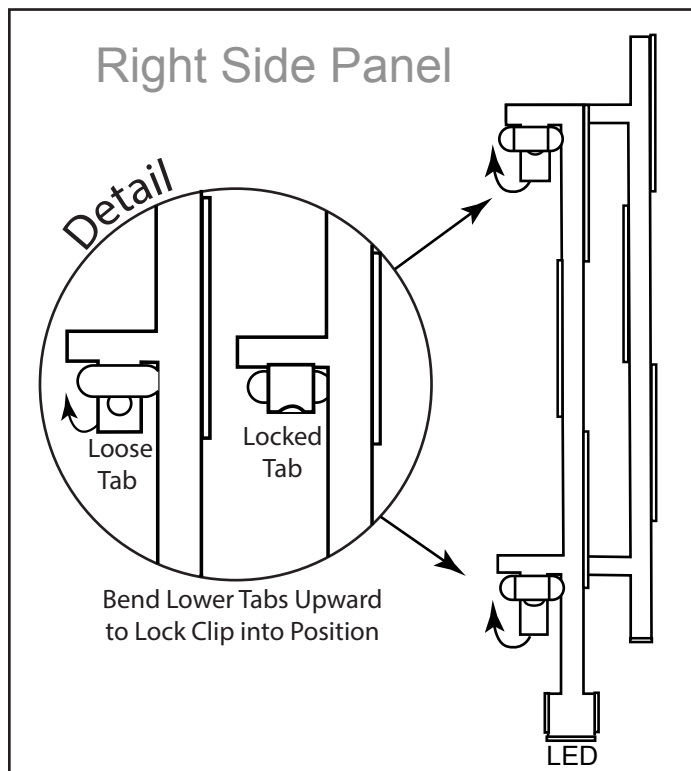

Fig. 18 Installing windshield clips
Step 4: After each LED glass clip is installed, use a flat blade screw and carefully bend the bottom tab out and upward to lock it into position. Use a fingertip or pliers to press the tab flat against the metal bridge. See Fig. 18.